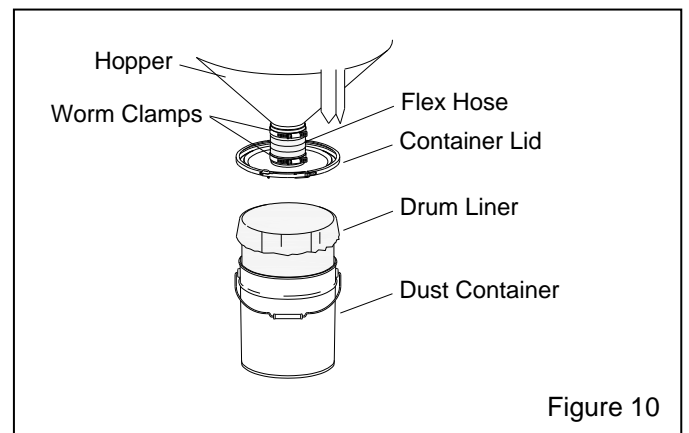

Figure 10
**2.11.1** Refer to Figure 10 and set the drum liner into the dust container. Drape the liner over the top edge of the container. Place the lid onto the container and latch the lock ring, making sure the lid and clamp are secure.